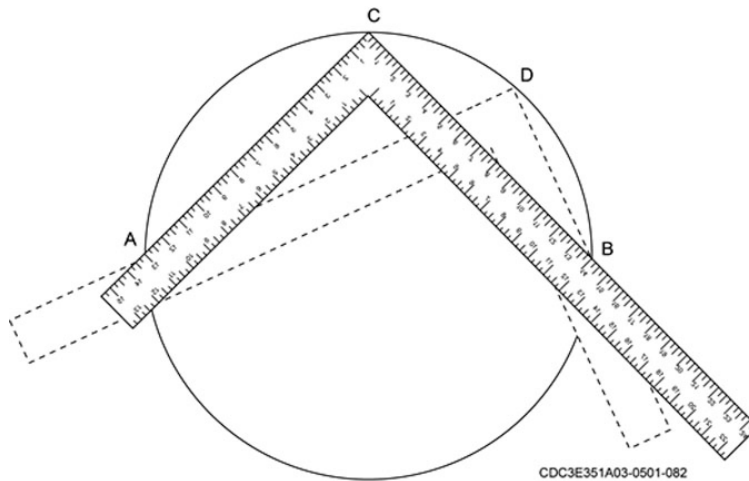

Figure 4-14. Using a framing square to locate the opposite side of a circle.
Craftsmen of all kinds have used the framing square for centuries. Squares are so common there are entire books written on their different usages. You'll primarily use squares for laying out angles for roof rafters, stair framing members, and to layout 45 degree and 90 degree angles on lumber. Another use of the square is for finding the opposite point on the circumference of a circle. This method is useful when locating holes for round duct dampers or placing ears on pails as a couple examples. Using figure 4-14, assume that you want to find a point opposite point A. With the tongue of the square located on point A and the heel placed at any other point on the circumference (C), the body crosses the circle at point B, which is directly opposite point A. A second example, illustrated by the dashed lines, shows that you can locate the heel of the square at any convenient point on the circumference of the circle.